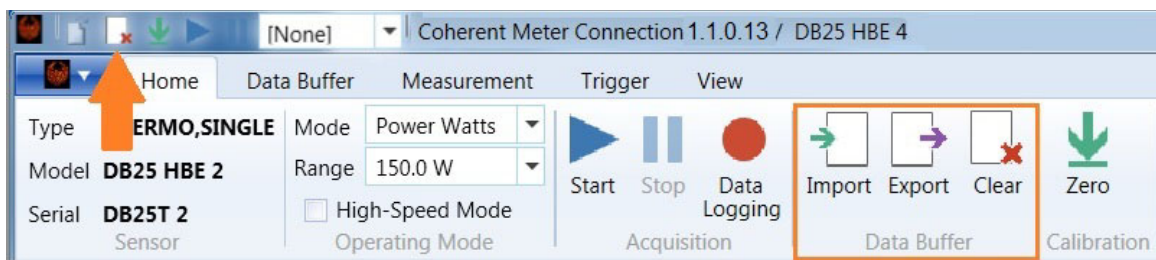

Figure 8-11. Export or Clear Data
9. In the **[Home tab]**, click an icon to export or clear the capture. You can also click the Clear icon in the Quick Access toolbar, shown in Figure 8-11.